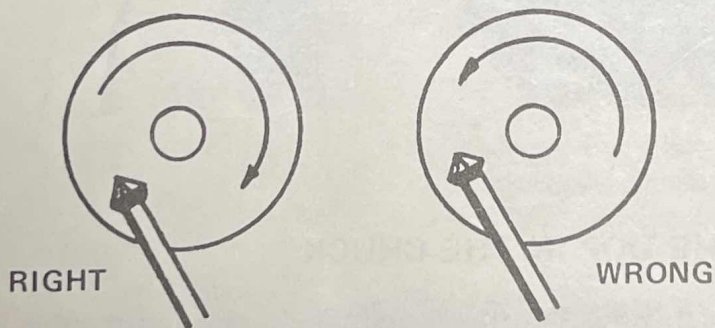

Figure 11.
The variable speed control is standard on all Ultra Tec's. The face of the speed control plate is self-explanatory, including a dial for speed selection. There is a switch which controls clockwise (CW) or counter clockwise (CCW) operation of the lap. During faceting, always have the lap running away from the gem, and not into it, Figure 11.